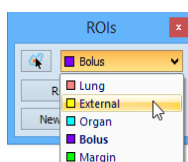

Figure 223 – Selecting the current ROI in TomoCon
- Select the ROI from the **ROIs** drop-down list in the **ROIs** tool in the tools panel (see Figure 223).